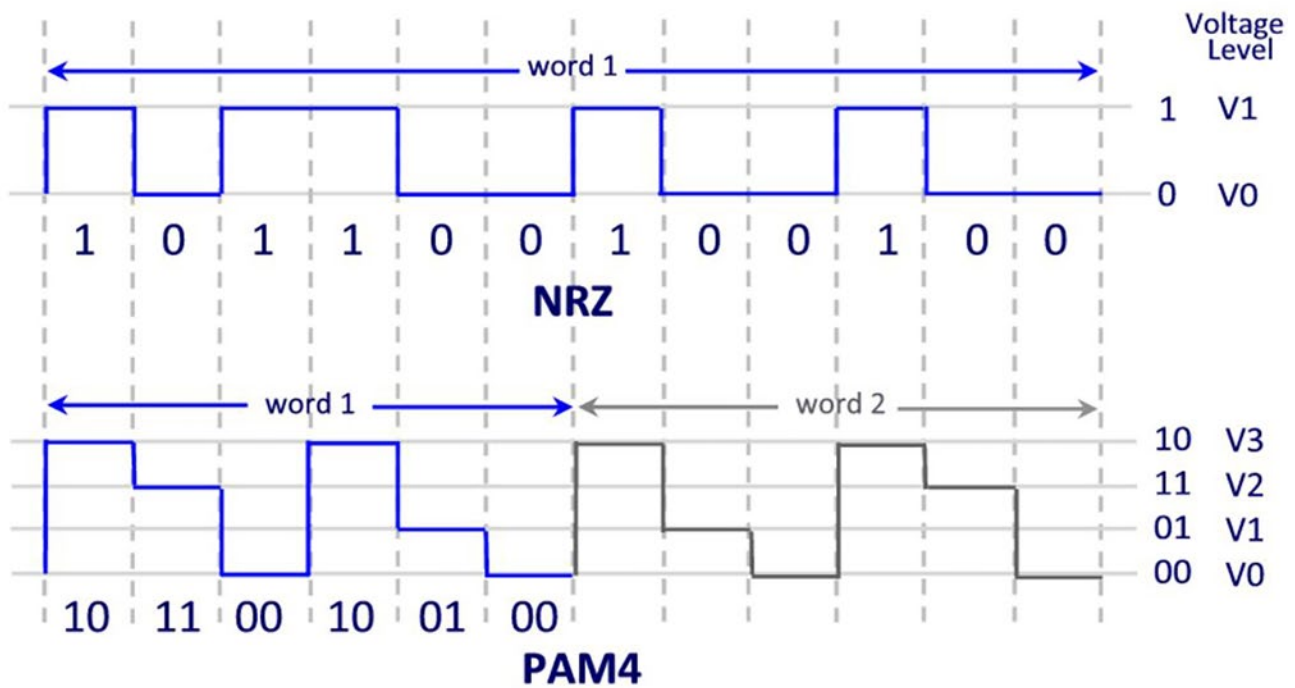

Figure 3: NRZ vs. PAM4 encoding.
The goal of these protocols is to transmit data efficiently over co-ax, fiber, or PCB interconnects, but each uses a different method and has its benefits and drawbacks. The well-established NRZ is good for short distance runs, has a throughput of 1 bit per unit interval (UI), minimizes current change, and has a signal and noise ratio (SNR) of 0 dB. On the other hand, PAM4 can transport twice the signal of NRZ (throughput of 2 bits per UI) because it operates on four levels (Figure 3). But this makes reflections three times worse than NRZ, resulting in an SNR of -9.54 dB. Unfortunately, lower-loss cables do not dampen reflections as well as those with higher loss. The increased reflections raise the noise floor, which is critical to PAM4 encoding, especially on shorter cable lengths. However,